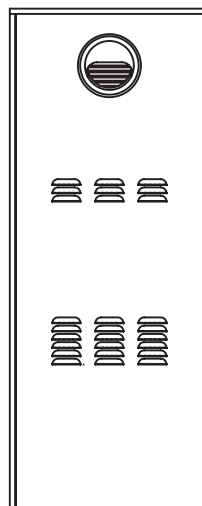

Figure 5: Completed installation.
- After confirming the heater is operating correctly, replace the front cover of the recess box. The vent termination will fit through the hole in the front cover as shown in Figure 5.